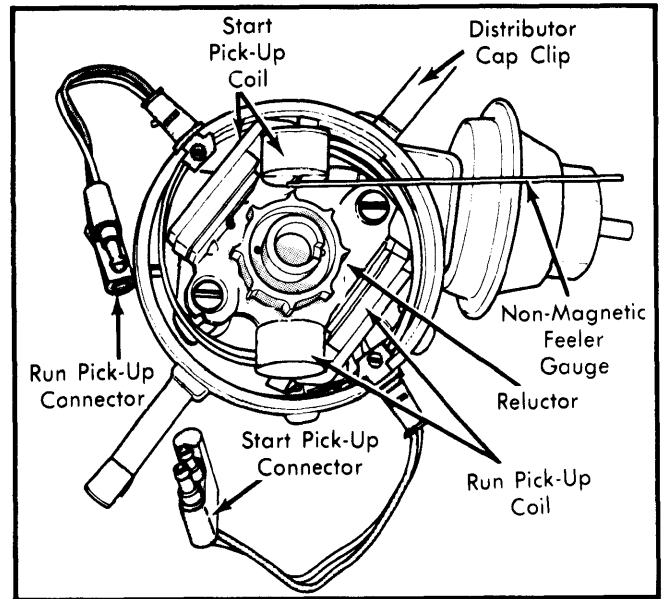

Fig. 4 Checking Air Gap of Dual Pick-Up Distributor Start Pick-Up Coil
1) To set **start** pick-up coil air gap, loosen hold-down screw and align one reluctor tooth with pick-up coil pole. Install .006" non-magnetic feeler gauge between reluctor tooth and pick-up coil pole. See Fig. 4. Move pick-up coil assembly until contact is made between pick-up coil pole, feeler gauge and reluctor tooth. Tighten hold-down screw and remove feeler gauge. Gauge should not require force during removal.